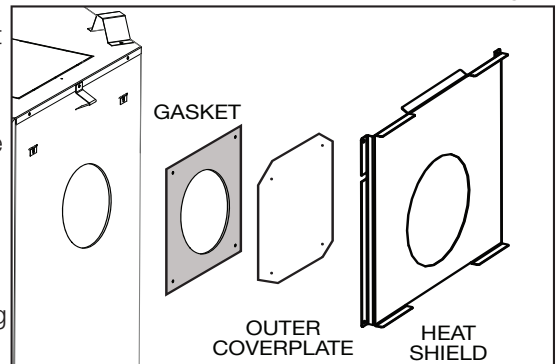

Fig. 2
- Remove the four screws securing the rear heat shield, set aside the shield. Remove the four screws securing the gasket and outer coverplate. (**Fig. 2**).